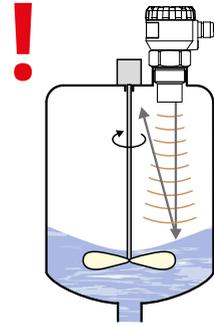

Fig. 11: Intensely stirred surface
- Rotating **mixer blades** can cause that the surface is stirred, which results in false reflections of the ultrasonic signal from the surface level and unreliable operation of the level meter (Fig. 11). **For a rippled or swirling level, you can use the directional horn to eliminate scattering of the ultrasonic signal.**